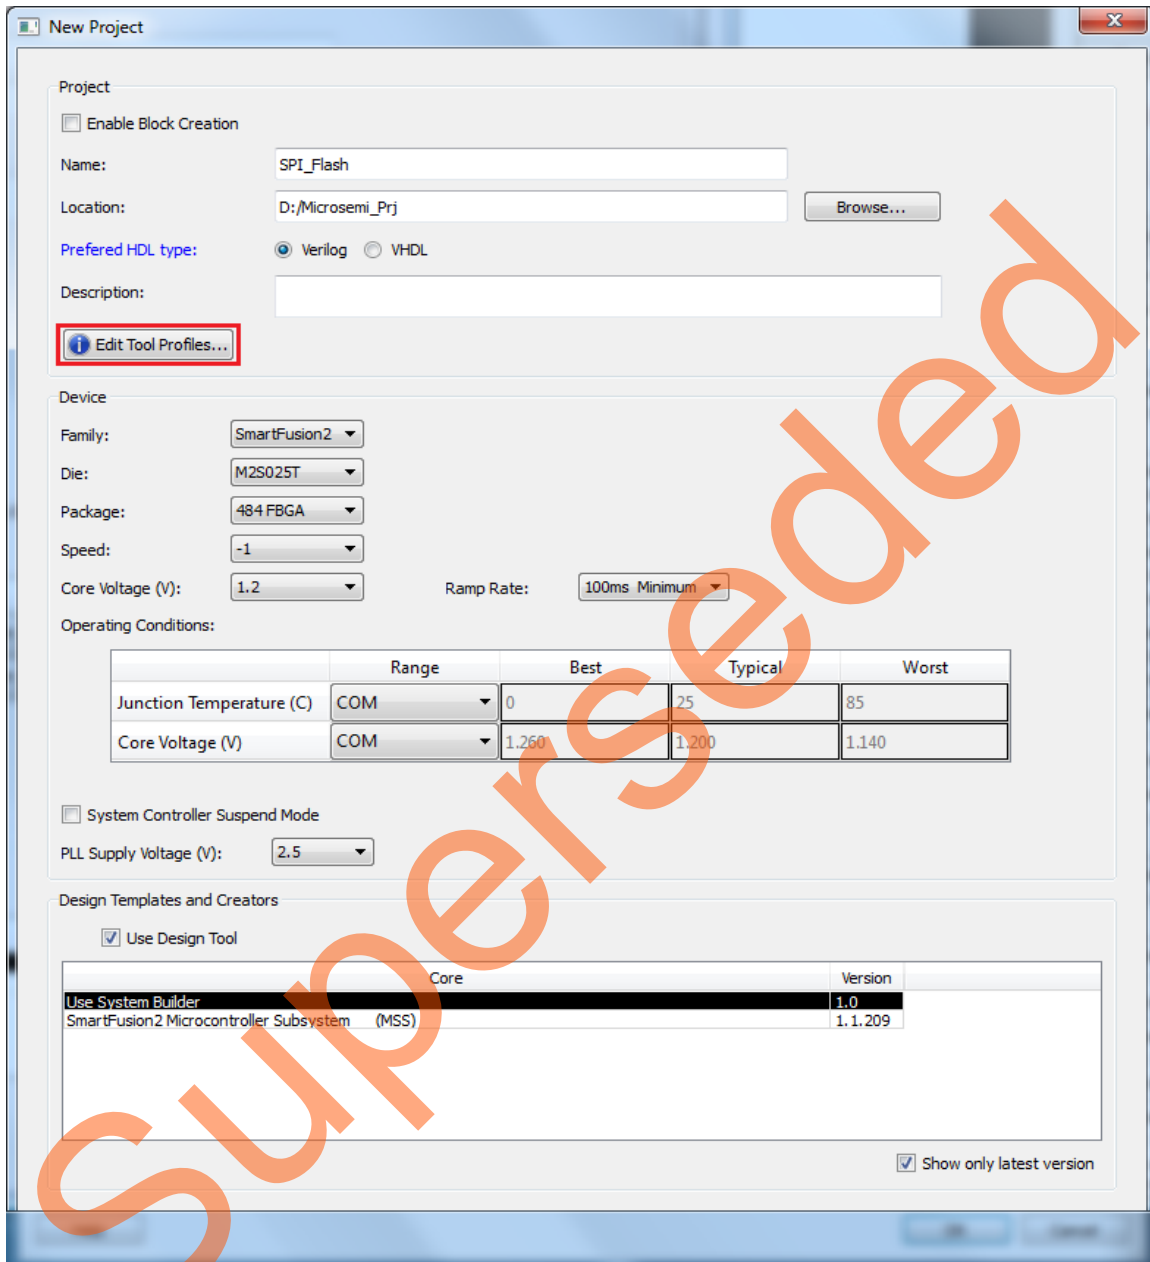
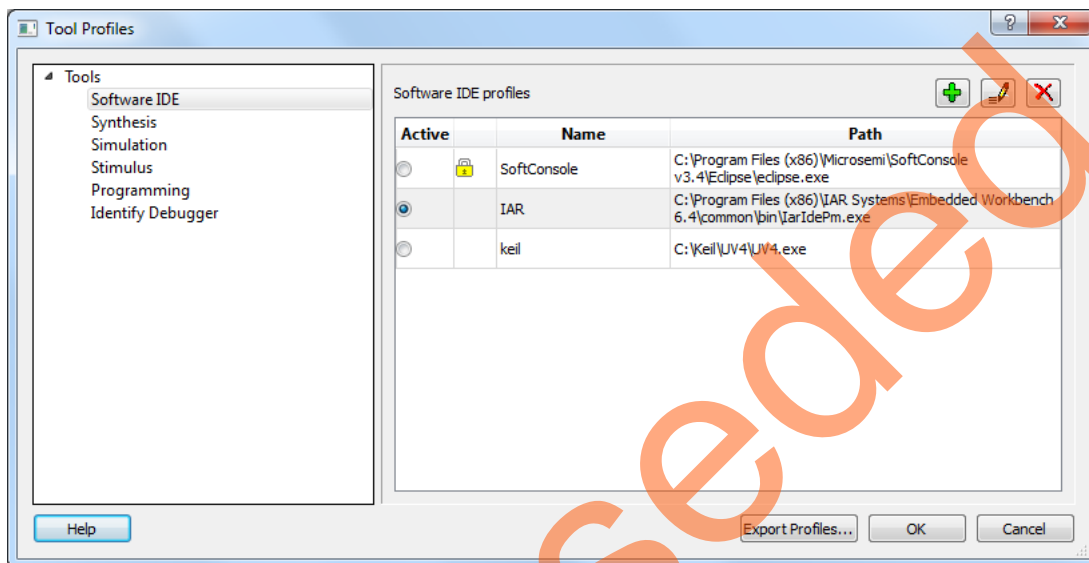

Figure 3 • New Project Dialog Box
Figure 4 • Tool Profiles
3. Enter the information as required for the new project and the device in the **New Project** dialog box as shown in Figure 3.
4. Check the **Use Design Tool** check box and select **Use System Builder** in the **Design Templates and Creators** section of the **New Project** window as shown in Figure 3.
5. Clicking **Edit Tool Profiles** (highlighted in Figure 3 on page 7) displays the **Tool Profiles** window as shown in Figure 4. Check the following tool settings: